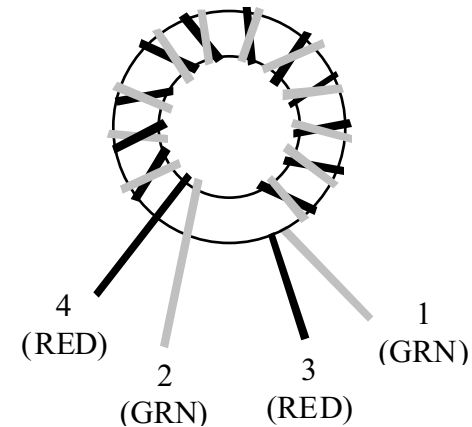

Figure 10
- Separate T1's leads as shown in Figure 10. The numbers on the leads correspond to numbered pads on T1's PC board outline.